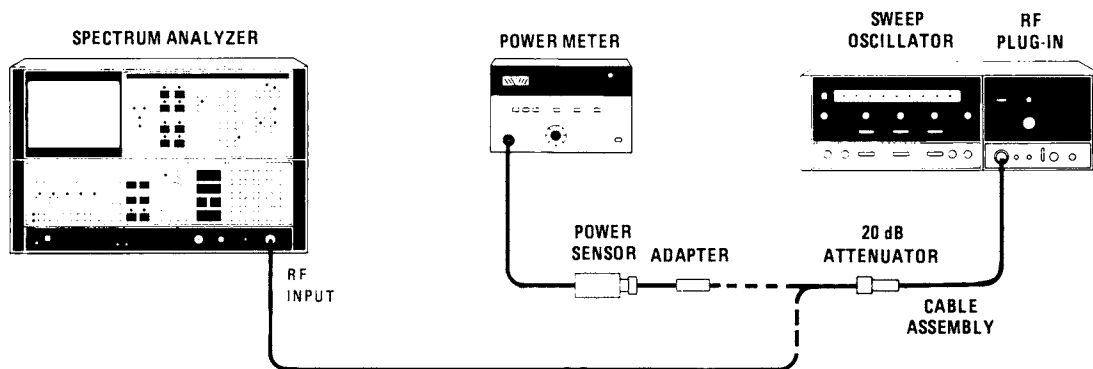

Figure 4-21. Frequency Response Test Setup (10 MHz to 2.4 GHz)
26. Set sweep oscillator for a 1 GHz (CW) output with RF Plug-In set to INT leveling.
27. Connect the power sensor to the RF OUTPUT of the RF Plug-In through the 20 dB attenuator and cable as shown in Figure 4-21.
31. Disconnect the power sensor and N-to-N adapter from the 20 dB attenuator and connect attenuator directly to the analyzer input (see Figure 4-21). Be careful not to flex the cable assembly more than necessary.
37. Disconnect test setup of Figure 4-21.
39. Set sweep oscillator to 2.0 GHz (CW). Set RF Plug-In controls as follows: